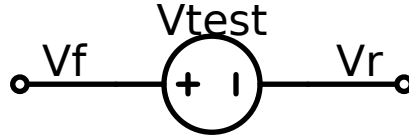
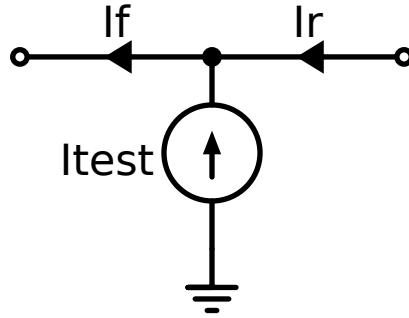

Figure 12: Middlebrook voltage loop gain simulation.
Figure 13: Middlebrook current loop gain simulation.
When we want to do an open-loop gain analysis, we break the loop at one point by inserting (1) an ac voltage source, and (2) attach an ac current source, as shown in Figure 12 and Figure 13.